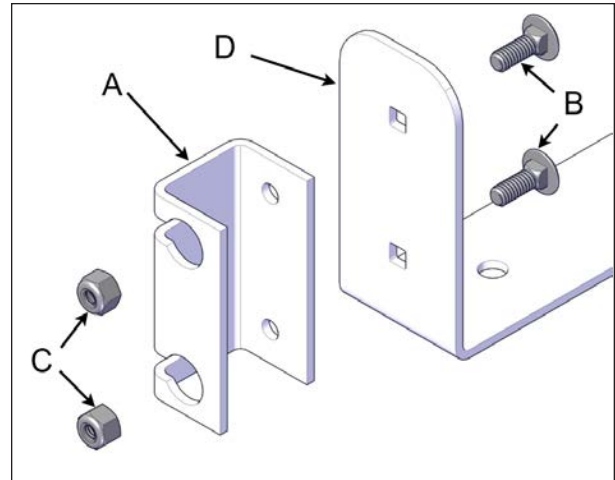

FIGURE 42: SPA ENTRANCE U-FRAME LINK AND METAL COUPLER
12. Install one unpainted metal coupler on each end of the spa entrance U-frame link see Figure 42.
13. Align one coupler with the holes on each end of the spa entrance U-frame link. Use the provided 1/4" x 3/4" carriage bolts, 1/4" nylon-insert lock nuts and fasten the hardware with the 7/16" (11 mm) socket wrench and spanner. There is one metal coupler per side see Figure 42.